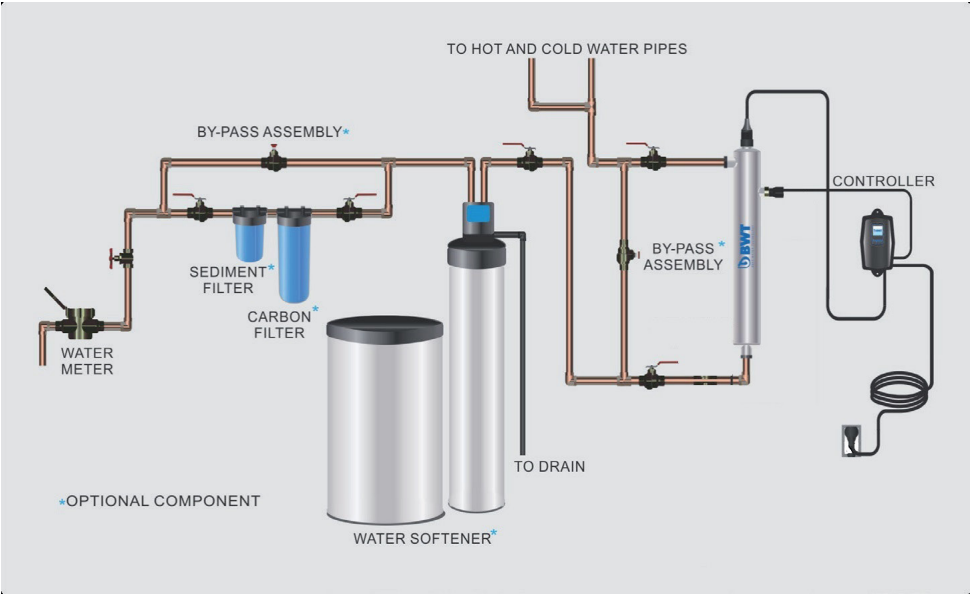

Fig. 1: Assembly recommendation for UV unit BWT Bewades Blue (for POE).
For **Point of Entry (POE)** systems, choose a location where the main cold water line is accessible. The system must be installed after other water treatment equipment (softener or filters), but before any branches (see Fig. 1).
- 10: Mount the controller unit to the wall so it is above or beside the reactor to ensure that no moisture can deposit on any of the connections (see Fig. 1). Always mount the controller vertically. For monitored systems, insert the sensor connector into the IEP port located on the right side of the controller (see Fig. 6). For the sensor to be recognized by the controller, the controller power must be plugged in last. Do not plug the controller power cord in before the last step.